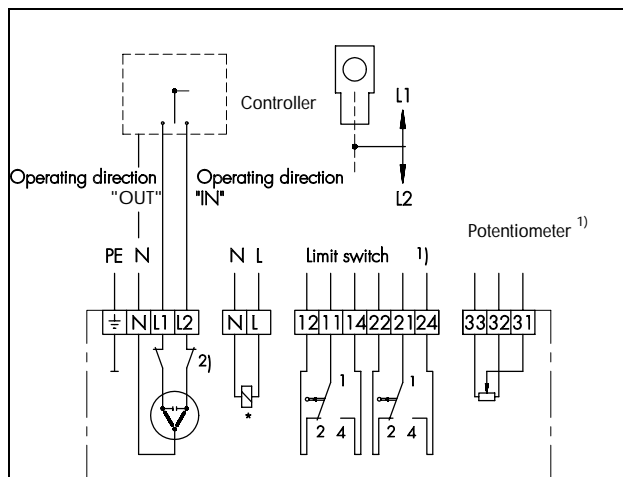

Fig. 8 · Circuit diagram for actuators without positioner
Fig. 8 illustrates the connection diagram of actuators operating without a positioner. The controller output signals are connected to terminals L1 and L2. If voltage is applied to terminal L2, the actuator motor moves the actuator stem (4) or connecting rod (5) in the operating direction "IN" (into the actuator). If, in comparison, a control signal is applied to terminal L1, the connecting rod or actuator stem is moved in the operating direction "OUT".